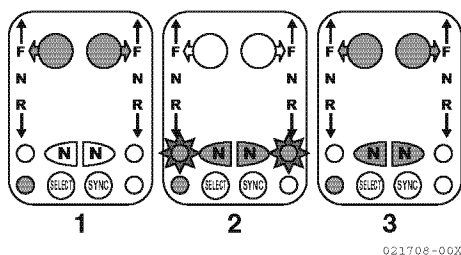

Figure 14
1. Move the engine's lever to an in-gear idle position (Forward Idle or Reverse Idle) (1, **Figure 14**) and press the N (neutral) button (2, **Figure 14**) next to this lever on the control head. The N (neutral) lamp (2, **Figure 14**) will flash to indicate that the Split Range Throttle is engaged.
Return the engine lever to a gear idle position (Forward Idle or Reverse Idle) (3, **Figure 14**). Press the N (neutral) button next to the lever on the control head. The N (Neutral) lamp will stop flashing, indicating that the Split Range Throttle has been disengaged.